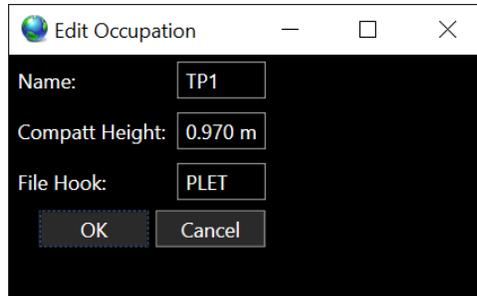

FIGURE 28 EDIT OCCUPATION DIALOG
1. Select the item, e.g. Pressure Cap, to add the Occupation to and click the New Transponder Occupation on Selected Item button to display the Edit Occupation dialog, see Figure 28.